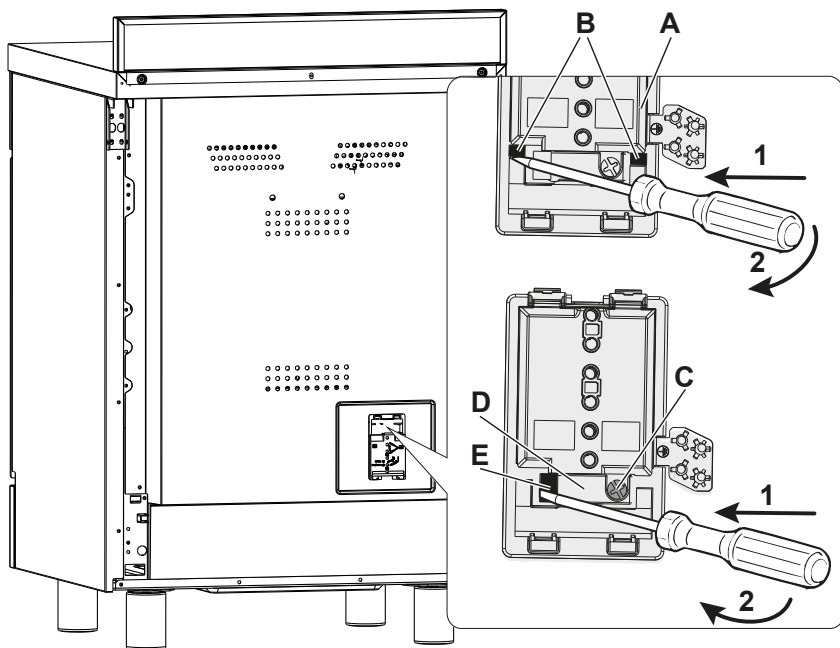

Figure 13
- Unhook the terminal board cover "A" by inserting a screwdriver into the two hooks "B" (fig.13). Open completely the terminal block cover "A".
- Unscrew the screw "C", then unhook the cable clamp "D" by inserting a screwdriver into the hook "E". Remove completely the cable clamp "D" (fig. 13).
- Connect the phase, neutral and earth wires to terminal board "F" according to the diagrams in fig. 14; the U bolts "G" (fig. 13) shall be used as indicated in the diagrams in fig. 14 (they are supplied already fitted to the terminals or inside the terminal board, behind the cover).